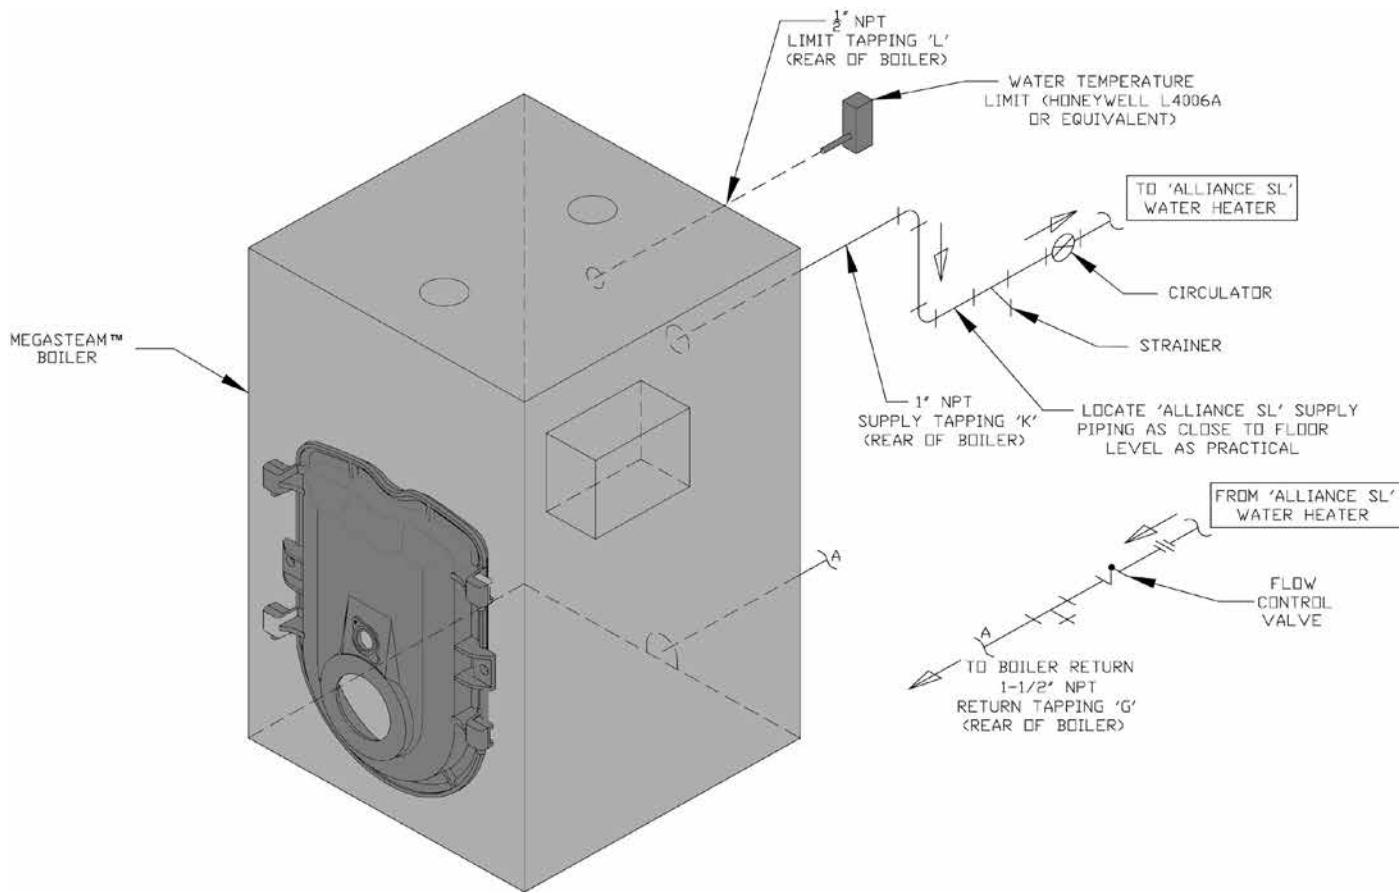

Figure 16: Alliance SL™ Water Heater Piping with MegaSteam™ Boiler
Higher temperature hot water required by dishwashers and automatic washers is possible by piping the hot water from the heater prior to entering the mixing valve. The mixing valve should be "trapped" by installing it below the cold water inlet to heater to prevent lime formation in the valve. Refer to Figure 16.
B. CONNECT ALLIANCE SL™ INDIRECT WATER HEATER PIPING as shown in Figure 16.